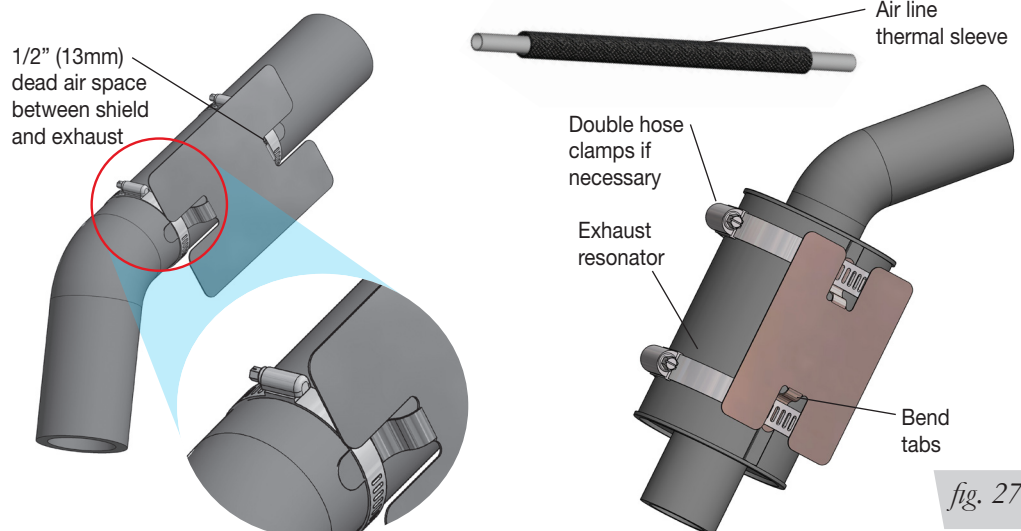

fig. 27
1. Attach the metal heat shield to the exhaust where it is closest to the passenger's (right) side air spring. Slide the air line thermal sleeve over the air line and position it where the air line is closest to the exhaust. (Fig. 27).